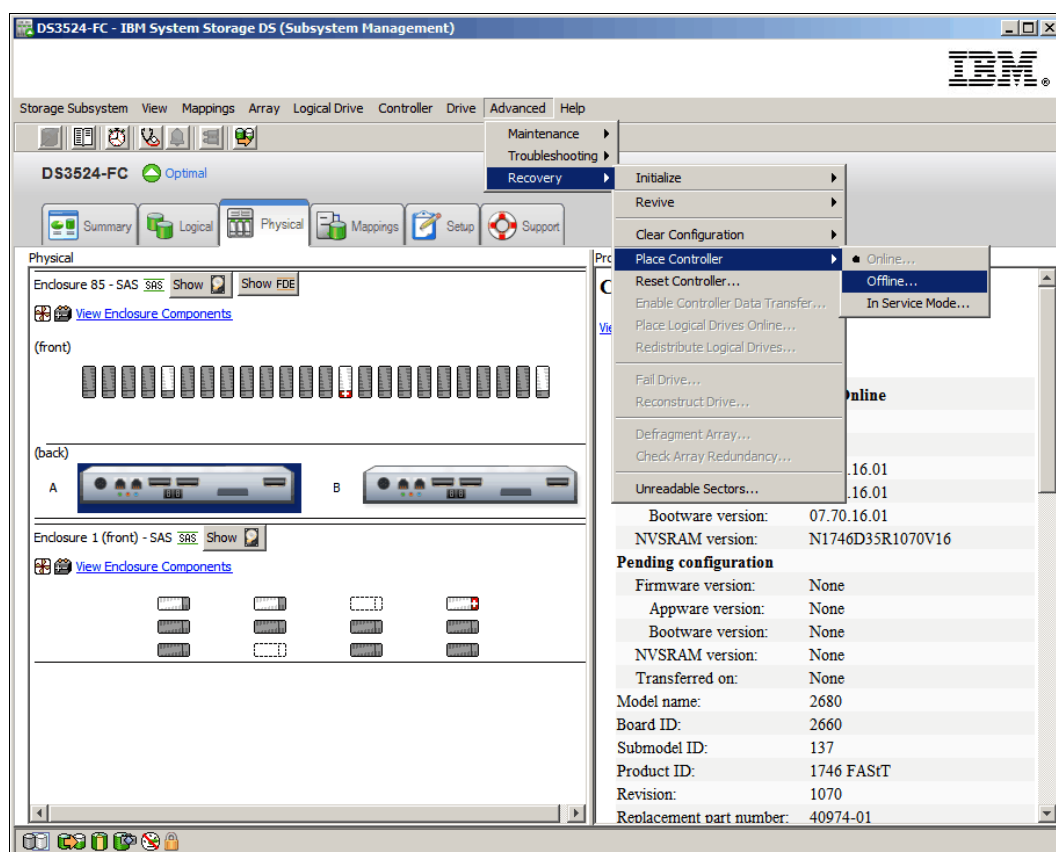

Figure 14-134 Place controller offline
1. Select the controller in the Physical tab of the DS Storage Manager (Subsystem Management) window and then click **Advanced** → **Recovery** → **Place controller** → **Offline** as shown in Figure 14-134.